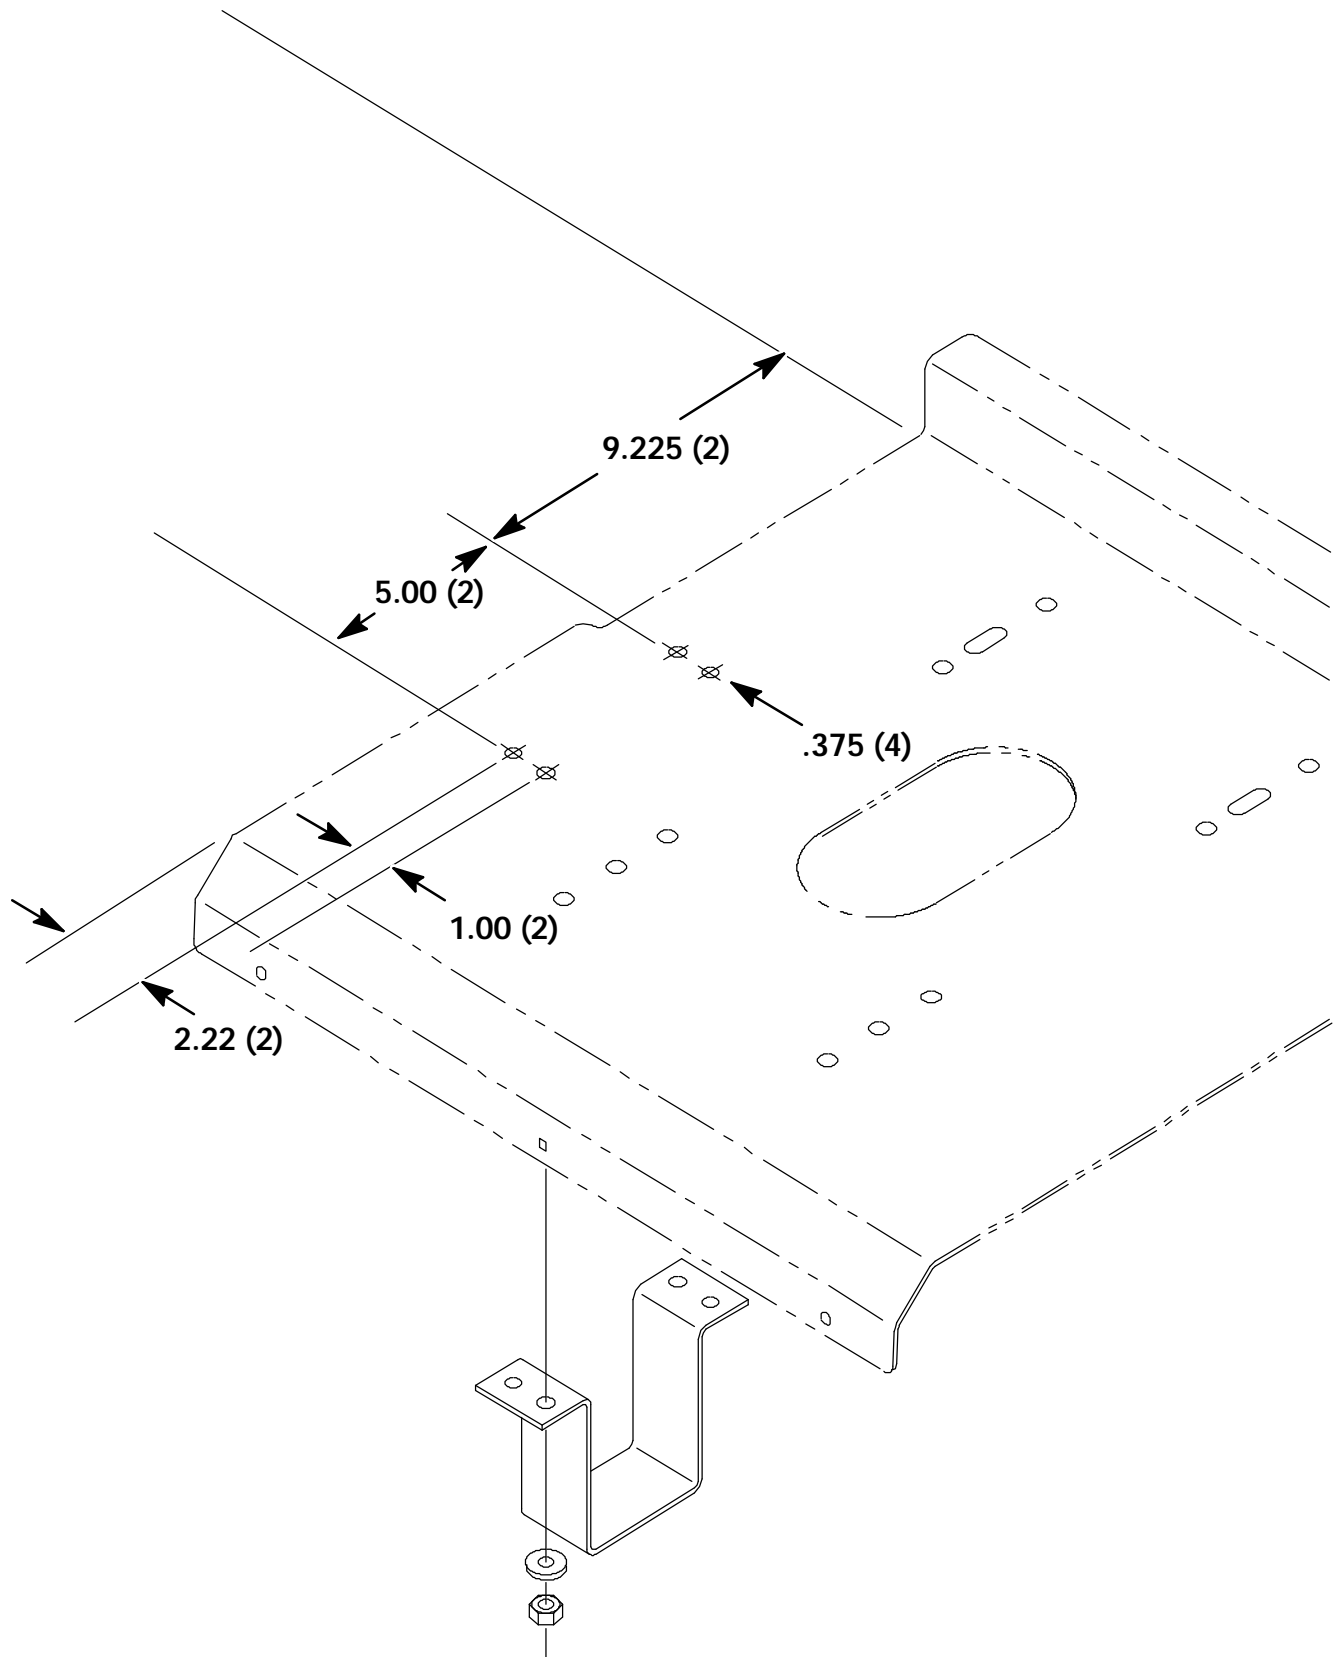

FIG. 3 Dimensions for Battery Case Stop Mounting Holes
5. Measure and drill four .375 inch holes under the right side of the seat and mount the battery case stop bracket (20) according to the measurements shown in figure 3. (Refer to FIG. 3)